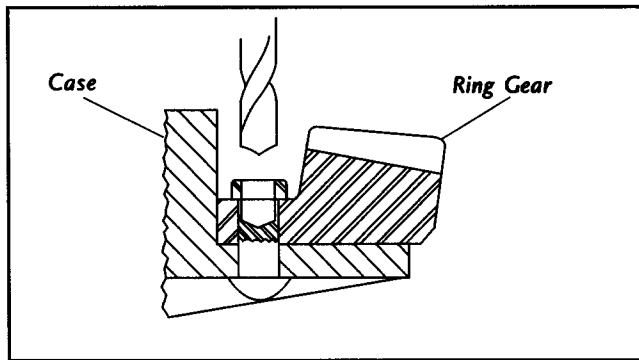

Figure 6
7. When it is necessary to remove ring gear from differential case, carefully center punch each rivet head. Use a 9/16" drill bit and drill through rivet heads (See Figure 6).